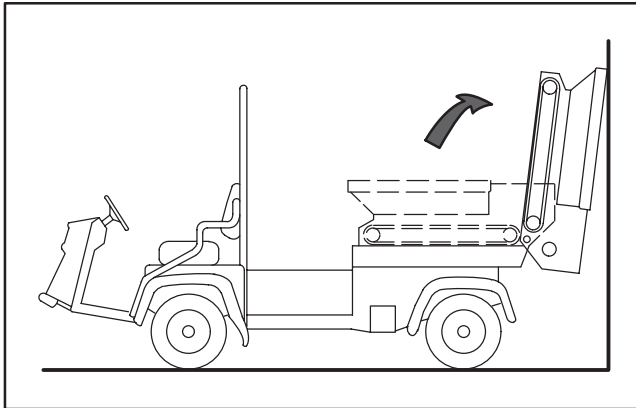

Figure 6
5. Pivot hopper rearward and lean against wall, ladder, etc. Do not allow hopper to rest against rear of machine as damage may result to brush or hydraulic couplers (Fig. 6).
IMPORTANT: Make sure hopper is pivoted beyond center and/or secured to wall or post to prevent it from accidentally falling on work area (Fig. 6).